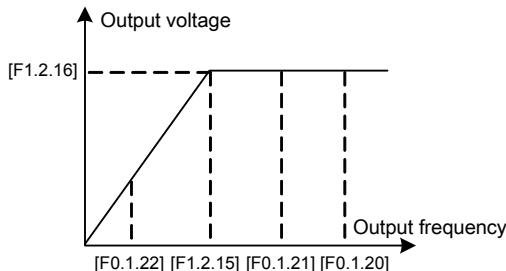

Figure 7-7 Frequency parameter definition sketch
The maximum output frequency, upper limiting frequency and lower limiting frequency shall carefully set according to the actual nameplate parameters and operating status of the controlled motor and. The relationship among the three kinds of frequency is shown in Figure 7-7.
- [F1.2.15] in Figure 7-7 represents the motor's reference frequency, and [F1.2.16] refers to the motor's reference voltage.